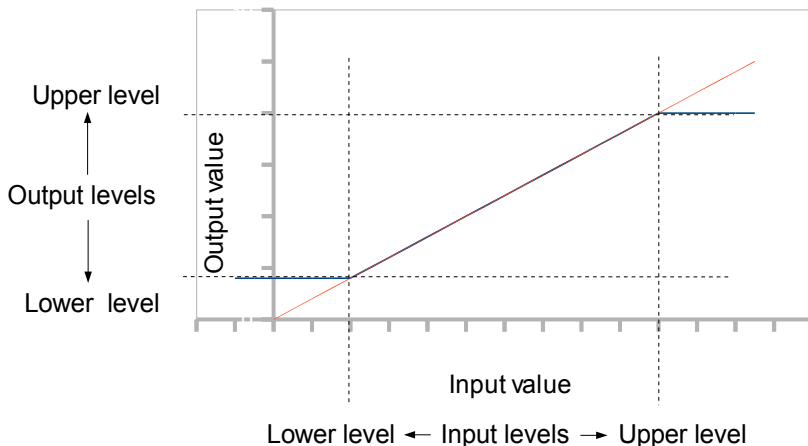

Fig. 7.95. Input (red)-output (blue) characteristic of signal in **Current output** module
**Lower level** and **Upper level** parameter describes the transfer equation (linear) - see Fig. 7.95. **Lower level** of the output defines the current which can be generated when the value of the input signal equals the **Lower level**. **Upper level** of the output defines the current which can be generated when the value of the input signal equals the **Upper level**.